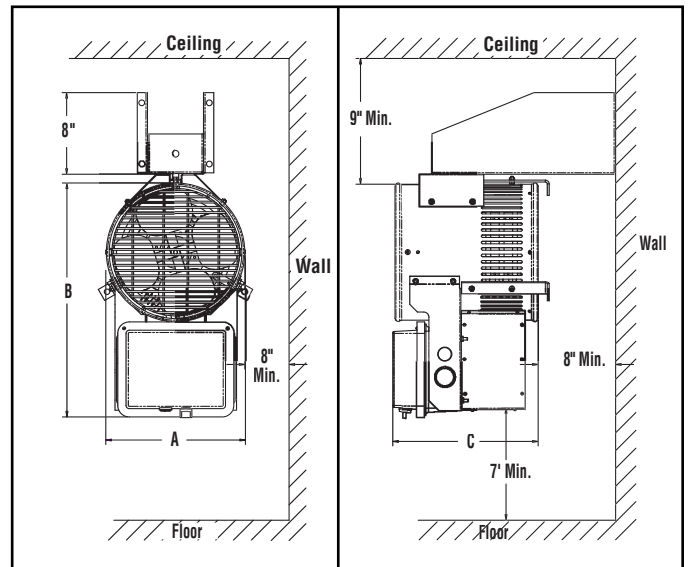

Figure 3
- For ceiling heights of 12 feet or less, maximum mounting height is determined by use of the mounting bracket offered for these heaters. Minimum spacing to ceiling is 9". (See Figure 3.)
- In either case the minimum mounting height is 7 feet from floor to bottom of heater. (Figure 3)
- Spacing to adjacent walls (See Figure 3).